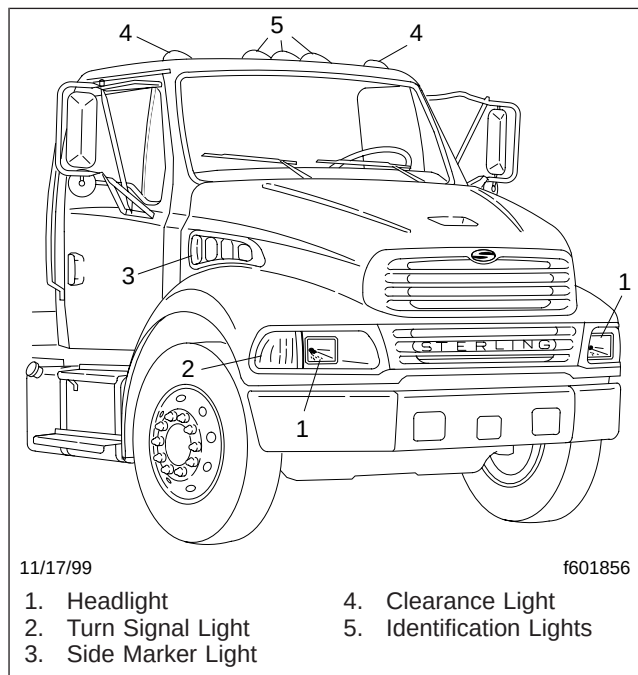

Fig. 11.5, Exterior Light Locations
38. Be sure the brake lights, taillights, side marker lights, fog lights (if equipped), headlights, turn signal lights, clearance, and identification lights are working and are clean. See Fig. 11.5. Test the high beams and low beams of the headlights.